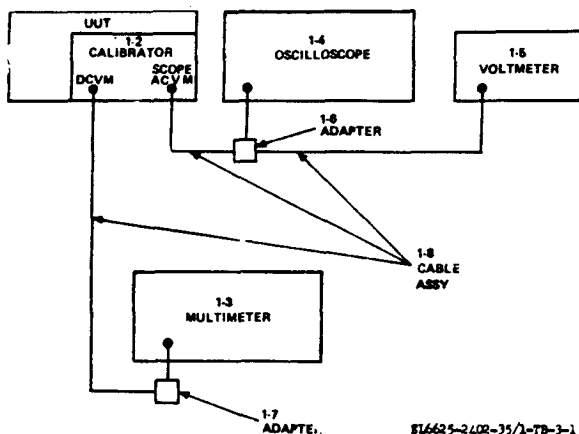

Figure 3-1. Sweep generator calibration, equipment setup
(1) Connect equipment as shown in figure 3-1, without the oscilloscope.
(2) Position UUT controls as follows:
(1) Connect equipment as shown in figure 3-1.